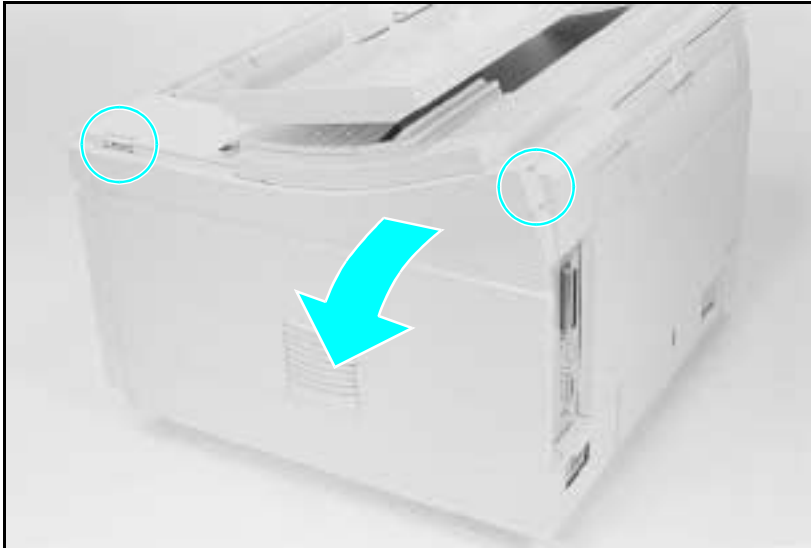

Figure 6-2 Right Side Cover Release Points
- 1 Open the Top Cover and release the Right Side Cover by pressing at the points shown in Figure 6-2.